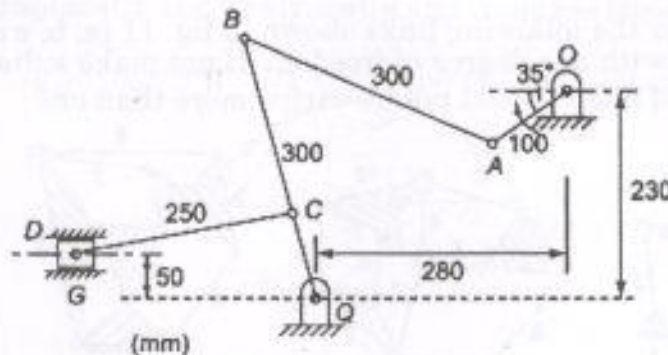

Fig.12 (b)
- b) Fig.12(b) shows a mechanism in which $OA = QC = 100$ mm, $AB = QB = 300$ mm and $CD = 250$ mm. The crank OA rotates at 150 rpm in the clockwise direction. Determine the (i) velocity of the slider at D (ii) angular velocities of links QB and AB (iii) rubbing velocity at the pin B which is 40 mm in diameter. (13)